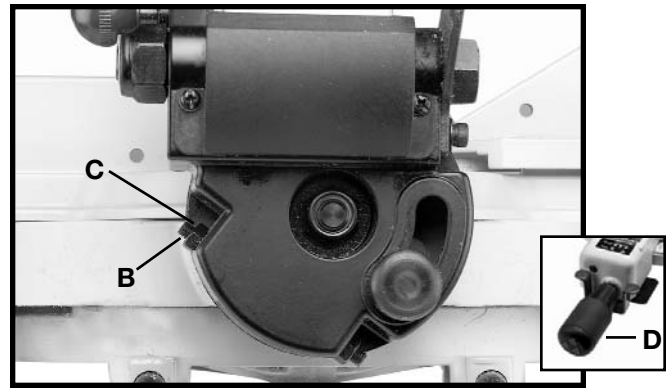

Fig. 24
4. If an adjustment is necessary, push in lock handle (D) Fig 24, and turn counter-clockwise. Loosen lockknob (B) Fig. 24, and use a 3mm hex wrench to turn screw (C) until blade is 90 degrees to the table. Tighten lockknob (B).